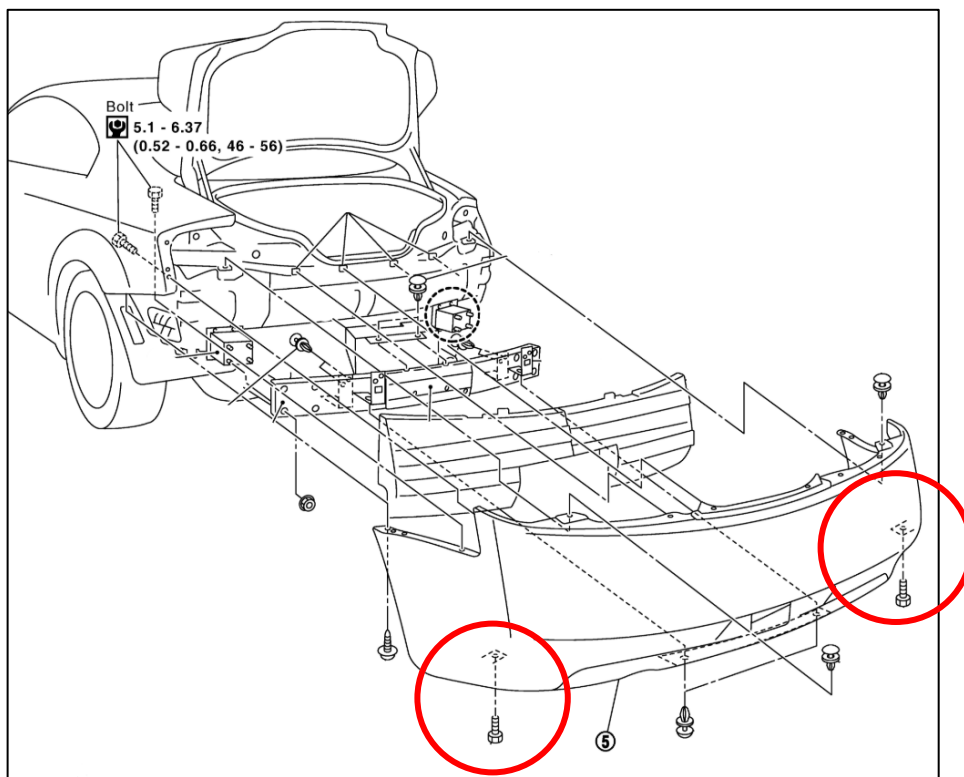

Figure 10
23. Remove the (2) two bolts, one on each side below the bumper. *Figure 10.*